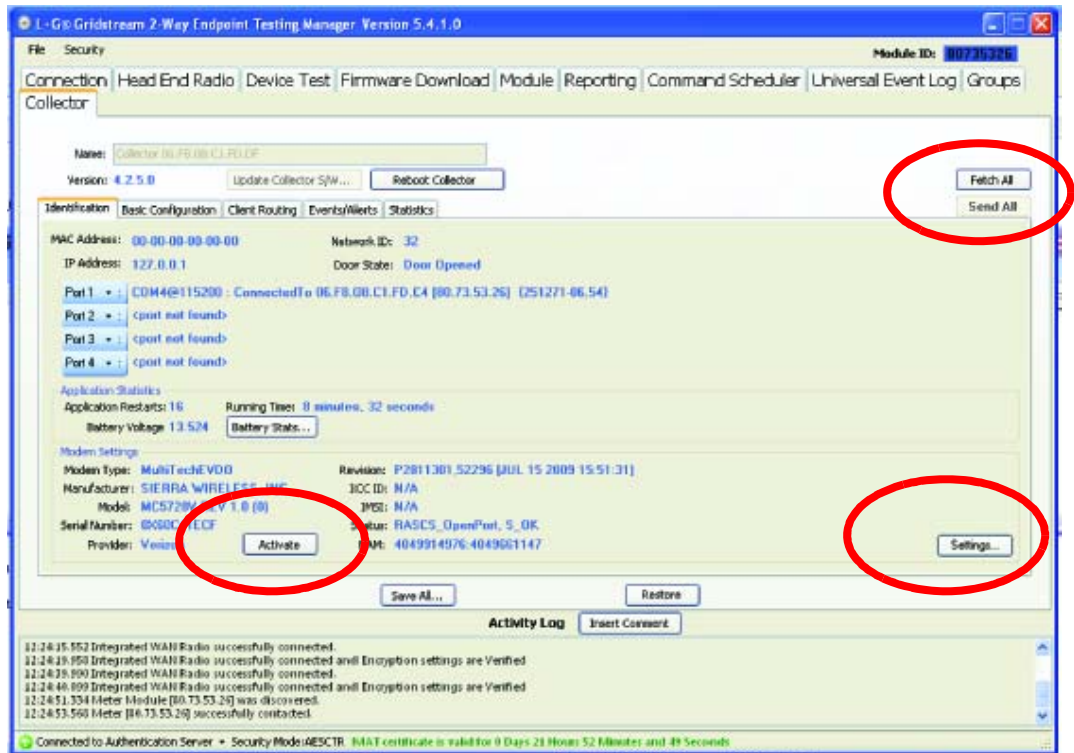

Figure 2 - 16. Initiate Verizon Service
3. Once the activation process has been initiated, wait at least 5 minutes for the over the air programming of the NAM to occur. Once completed, press the **Settings** button Figure 2 - 16.